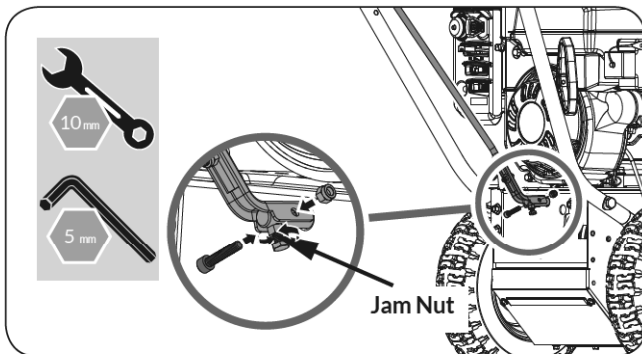

**Figure 4a**
1. Remove the knob to slide the slot in the control panel through the shift lever. (See **Figure 4a** #1)
3. Secure control panel to the handlebars with screws, washers and nuts. (See **Figure 4a** #2)
4. Once control panel is installed. Securely tighten lower handle bolts. (See **Figure 4a** #3)